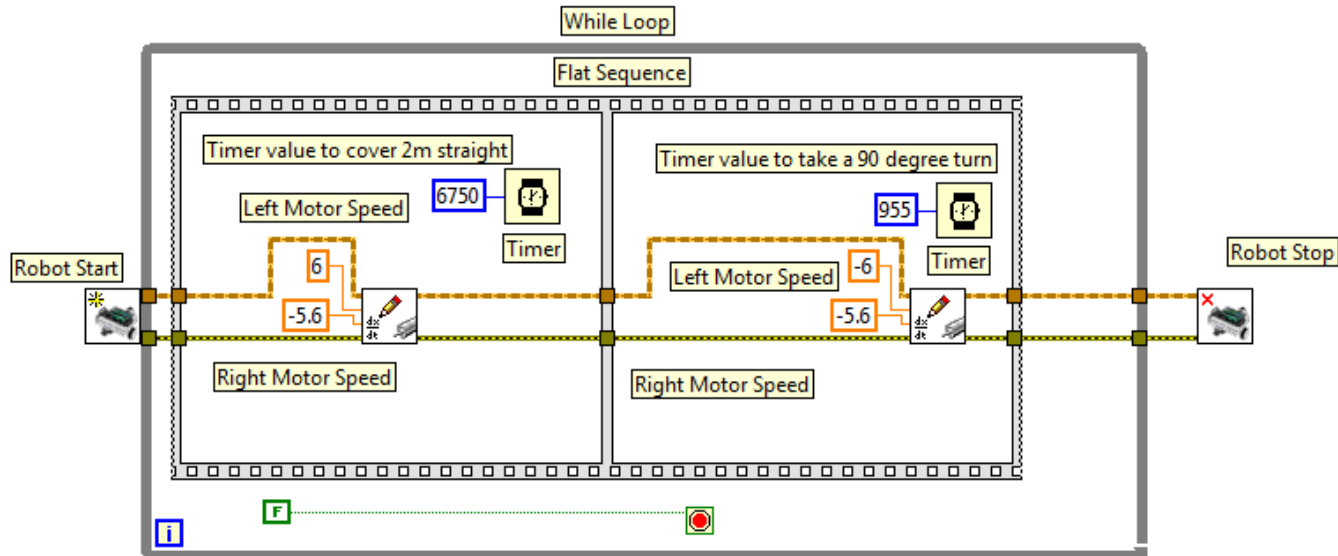

Figure 1: Lab View Program
3. A new VI was then created under the Project file. This VI was used to run the motors on the DaNI 2.0 robot. In order to create this program, the Initialize, Close and two Write DC Motor icons were placed in the back panel of the VI. A flat structure sequence was added which included one of the Write DC Motor icons in each of the frames; therefore, the flat sequence structure had two frames. In order to make the motors run continuously, a while loop structure was added around the DC Motor icons. Next, two timers were placed inside each of the frames which determined how long the motors were running at the determined settings in that frame. Finally, the speeds of the motors were added as constant to the Write DC Motor icon. All wires were then connected in order to complete the program. Figure 1 shows this completed program. The values of the motor speed & timers were based on the Lab 3 tutorial values.